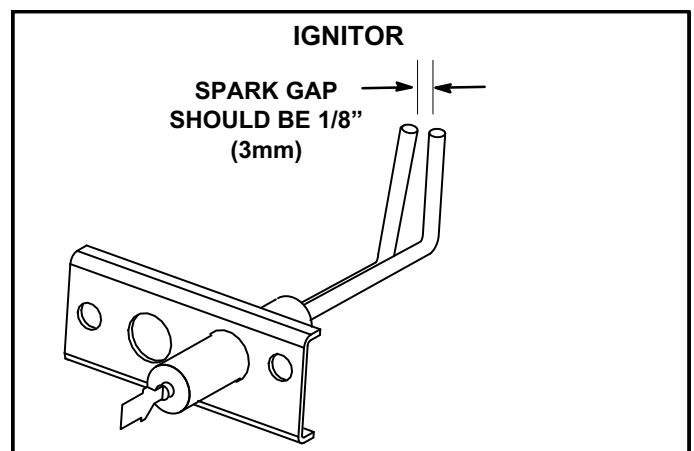

FIGURE 60
- 6- Remove and retain the two screws securing the ignitor to the burner support. Remove the burner and check the spark gap with appropriately sized twist drills or feeler gauges. See figure 60.